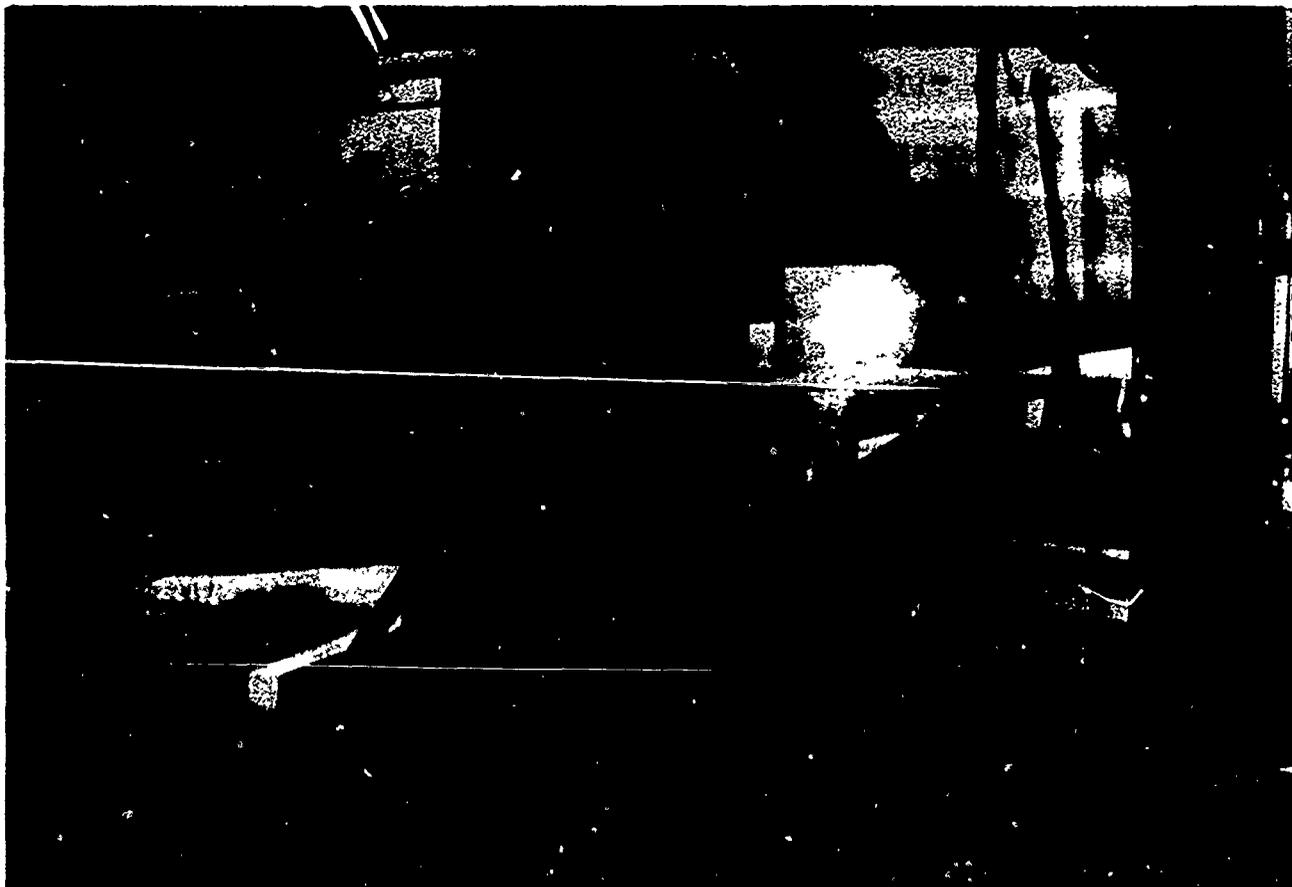

Figure 29. Pan and Tilt Camera Assembly.
9. Pan & Tilt Camera Assembly (Figure 29)